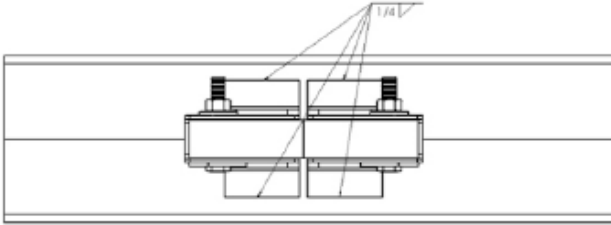

Fig. 1 Welded axle and bracket
3. Fillet weld a full bead on the front and back edges of each bracket pad, only the edges indicated in figure 1.